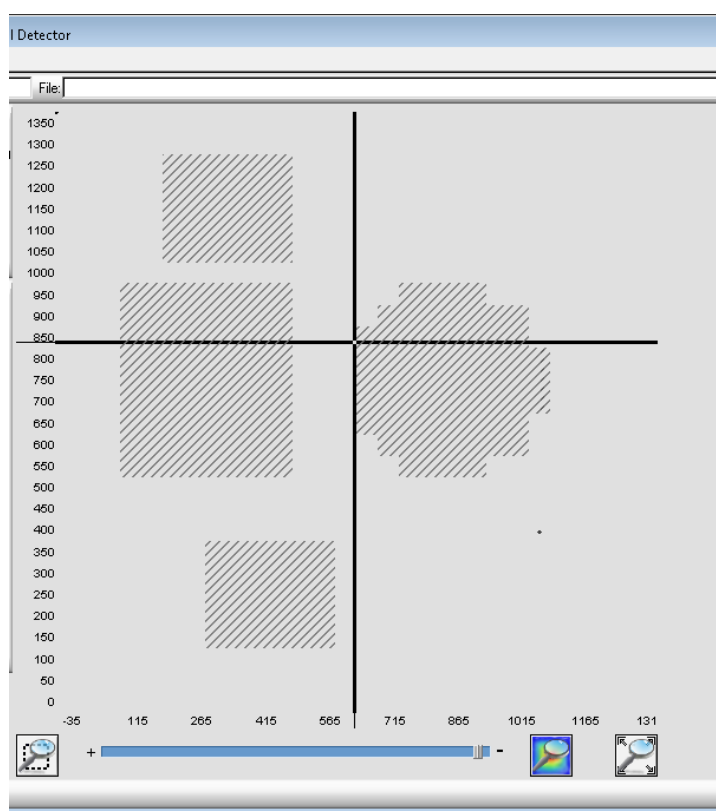

Figure 4.20 Shaded Areas Show Macro Regions to Be Scanned
6. After all areas have been defined click on the **Save Macro** button. This opens a standard Save dialog box. Enter the filename of the saved macro, and click **Save**. The areas to be scanned by the macro appear as shaded regions on the 2D plot as shown in Figure 4.20 below.